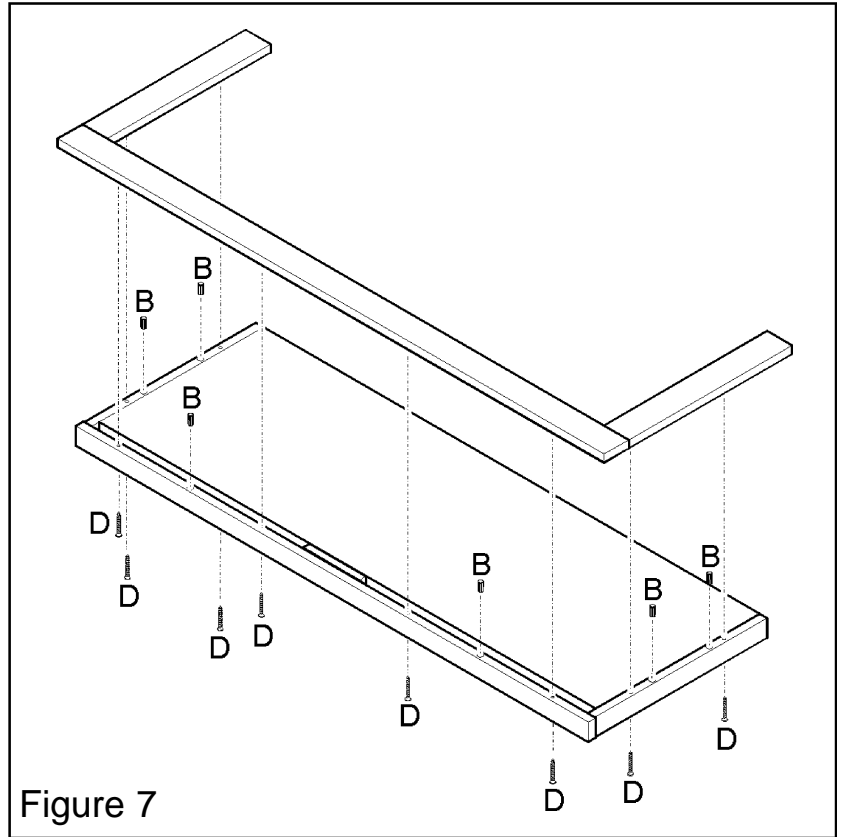

Figure 7
- Insert six long dowels as in figure 7.
- Assemble the upper and lower parts of the hearth using eight 35mm screws as in figure 7.